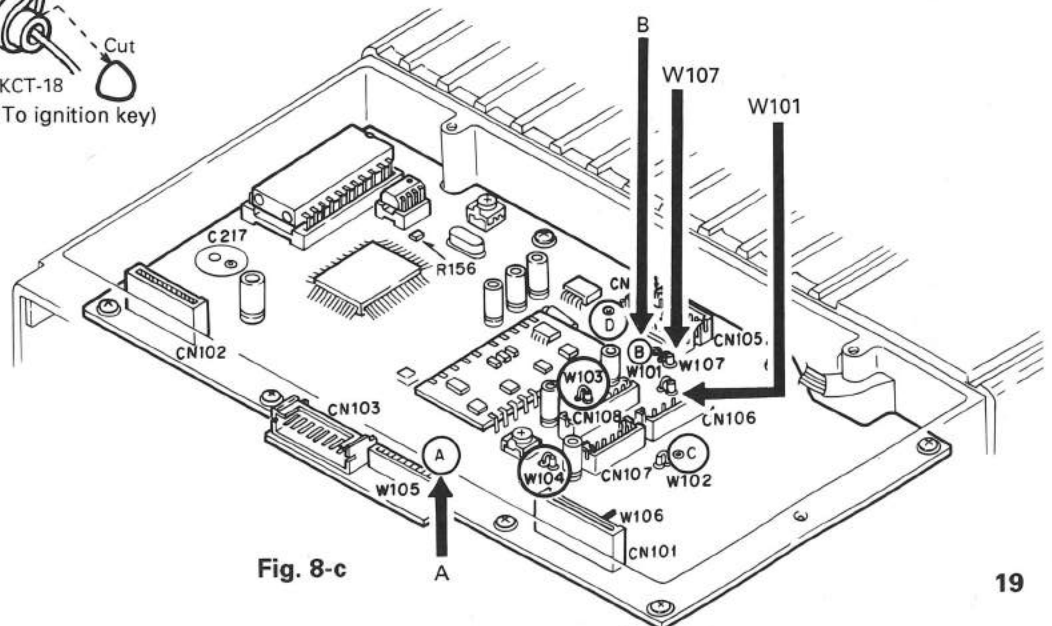

Fig. 8-c
• When you use the remote kit (KRK-2, KRK-3DH, or KRK-4DB) (Fig. 8-b)